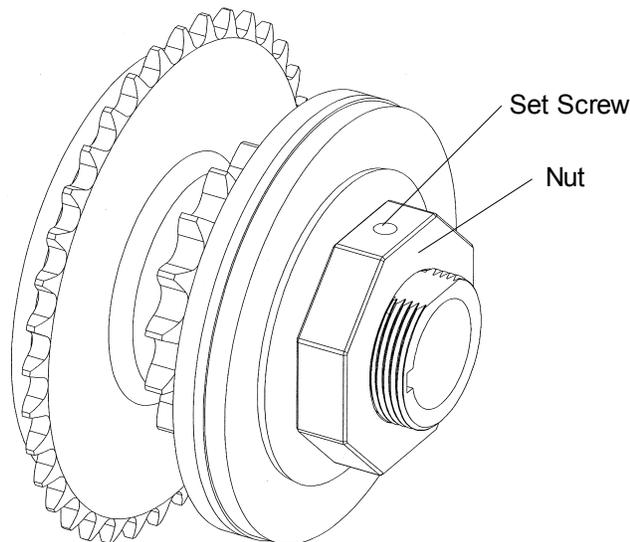

Figure 39 - Clutch Adjustment
1. Loosen clutch set screw, refer to Figure 39.